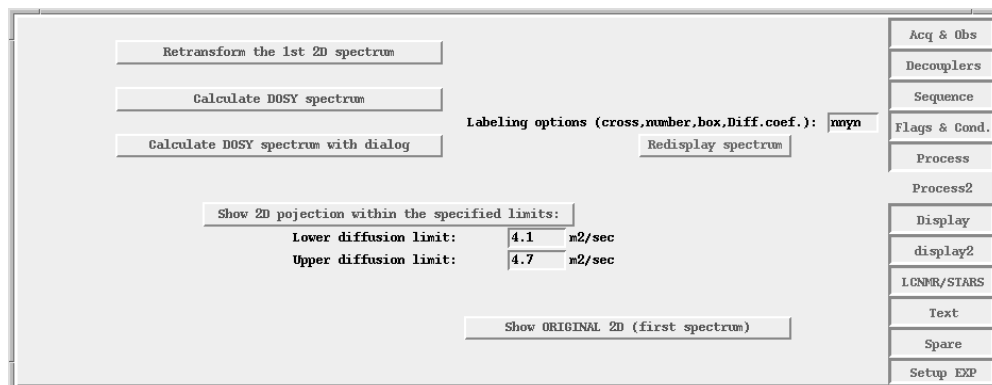

Figure 12. Tcl-Tk Process2 Panel for the 3D-DOSY Pulse Sequences
5. The display of diffusion coefficients as numbers on the screen can result in very crowded display. You can change the type of information shown by using the `l12dmode` parameter (for details see the *Command and Parameter Reference Manual* and Figure 12).
Both sequences are equipped with a Tcl-Tk Process2 panel, shown in Figure 12, providing access to necessary functions and parameters to process 3D DOSY data.